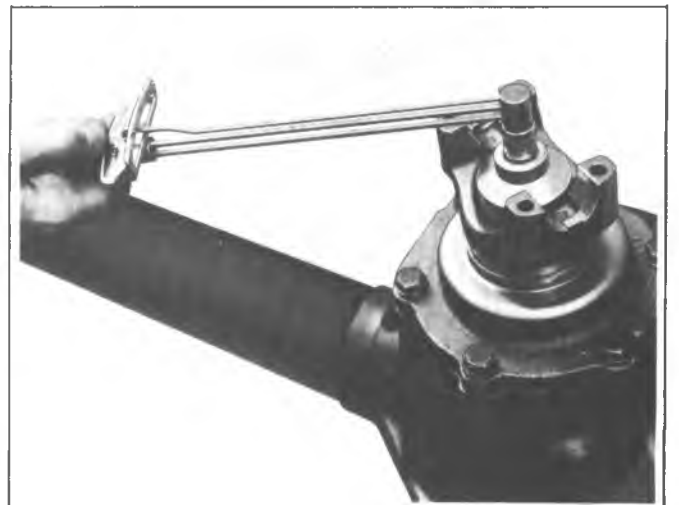

Fig. 15E--Measuring Rotating Torque
b. Tighten pinion nut to approximately 350 ft. lbs., then take a torque reading as shown in figure 15E, using J-5853.